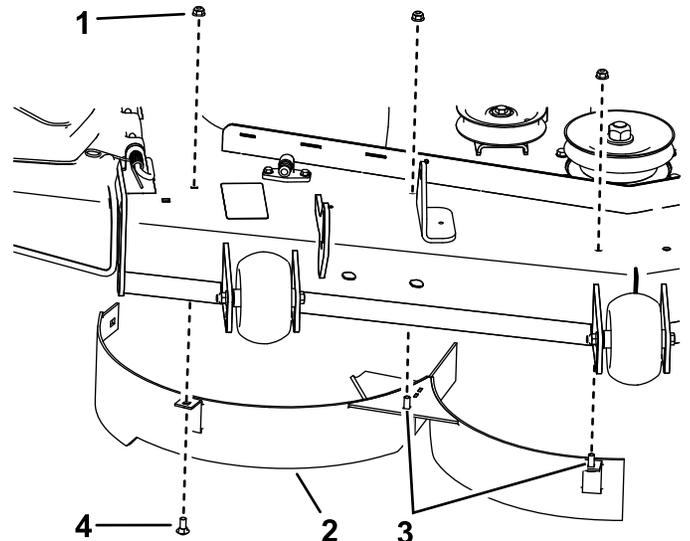

**Figure 4**
1. Remove the nuts and bolts from the location shown in Figure 4.